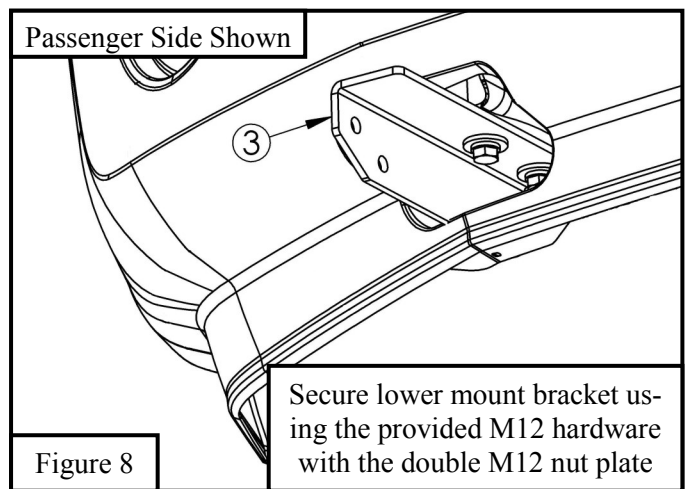

Figure 8
- Start on either side and locate (1) lower mount bracket (Items 2/3) and (1) double M12 nut plate (Item 8) and loosely secure to frame channel, where the factory tow hooks were, using (2) M12 hex head cap screws, (2) M12 flat washers and (2) M12 split lock washers. See **Figure 8**. Repeat step for opposite side.